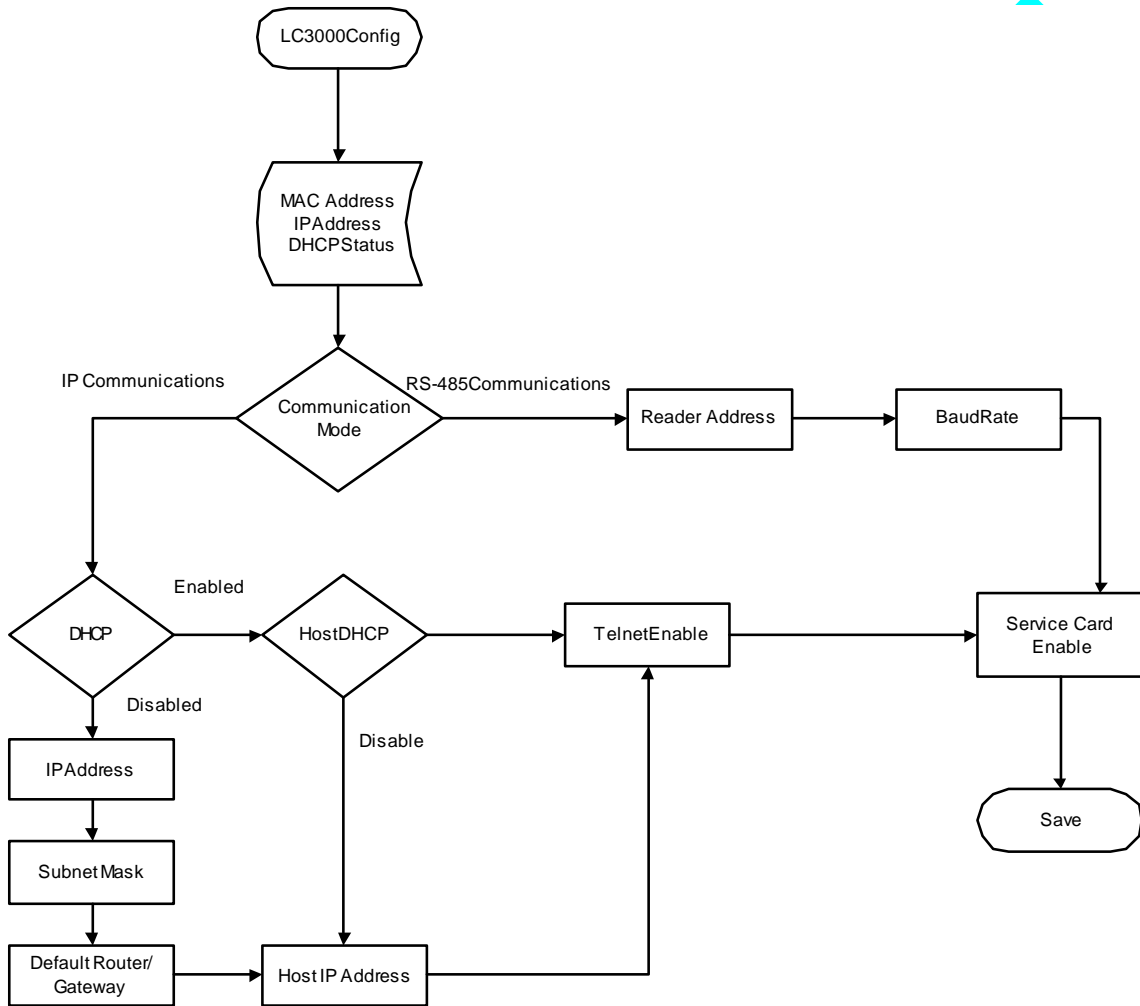

Figure 5: LC3000 Laundry Reader Configuration
The Laundry Reader must be configured to interface with the BbTS network. Configure the Reader using either the front panel of the Reader or the configuration port (see Figure 5: LC3000 Laundry Reader Configuration (page 13)). Future configuration modifications can be one using Telnet, if enabled.
*config to configure the LC3000. Refer to Figure 5: LC3000 Laundry Reader Configuration (page 13), LC3000 Laundry Reader Configuration.*
***config** to configure the LC3000. Refer to Figure 5: LC3000 Laundry Reader Configuration (page 13), LC3000 Laundry Reader Configuration.*